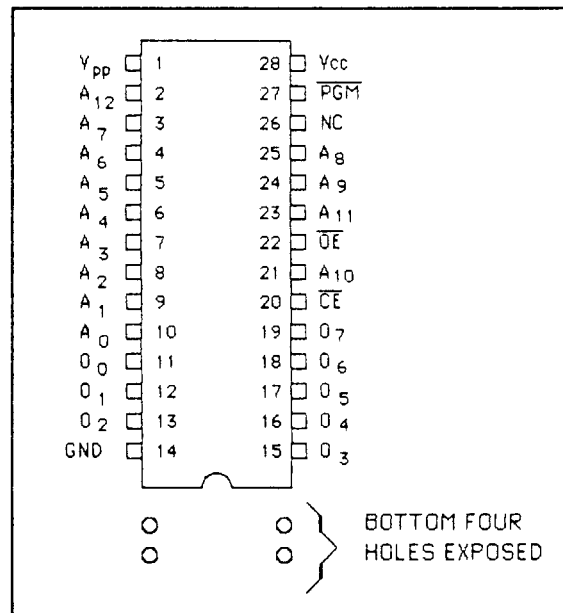

Figure 2-7. Notched End of the Memory Chip
- 2) Reference the notched end of the memory chips as shown in Figure 2-7. When installing a 28 pin chip, the chip should be oriented towards the bottom of the board, leaving the bottom holes exposed as shown below.